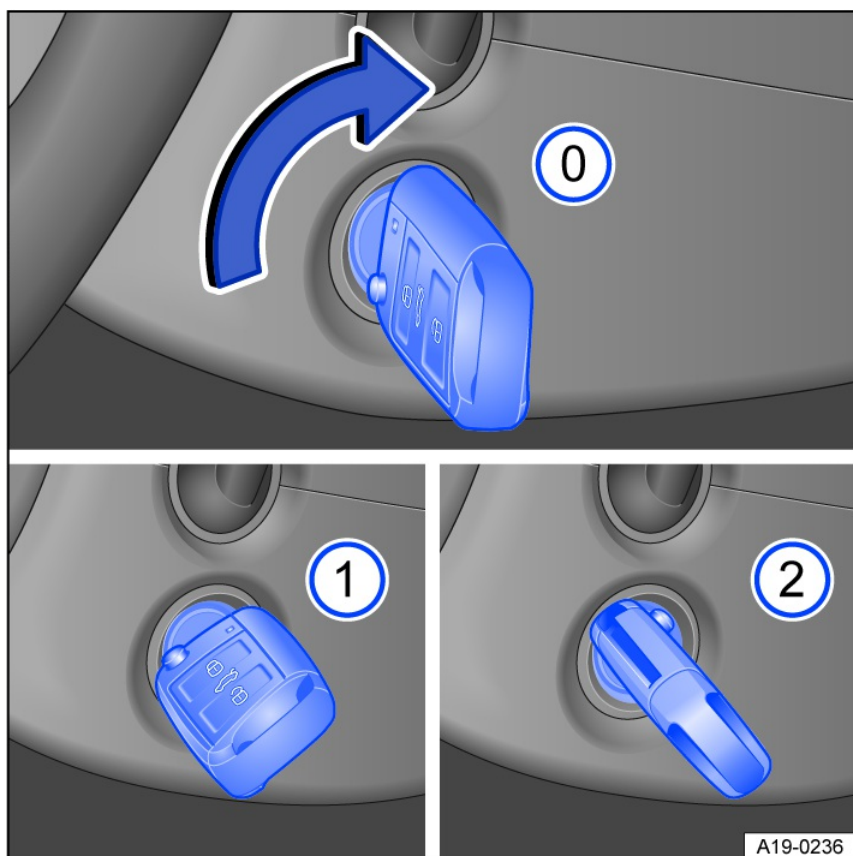

Fig. 95 Next to the steering wheel on the right side: positions of the vehicle key in the ignition lock.
Vehicle key positions *fig. 95*:
- ① The ignition is switched off. The vehicle key can be removed.
- ① The ignition is switched on. The steering lock can be released.
- ② Press the brake pedal when the  indicator light is green. Start the engine. Release the vehicle key once the engine has started. The vehicle key returns to the position *fig. 95* ① once it is released.